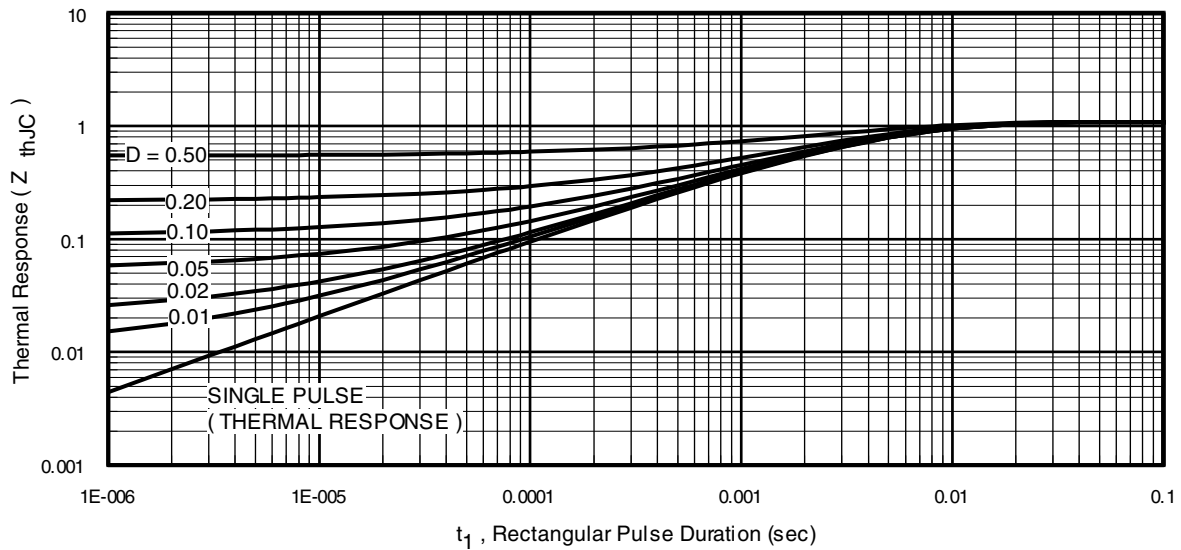
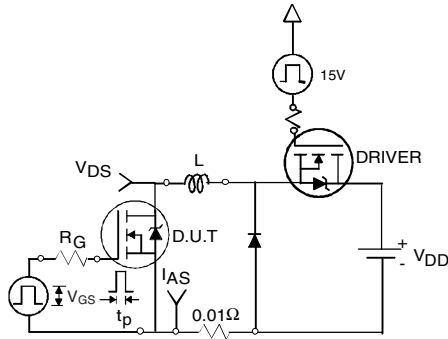

Fig 11. Maximum Effective Transient Thermal Impedance, Junction-to-Case
Fig 12a. Unclamped Inductive Test Circuit
3. Equation below based on circuit and waveforms shown in Figures 12a, 12b.
$Z_{thJC}(D, t_{av})$ = Transient thermal resistance, see figure 11)
- ① Repetitive rating; pulse width limited by max. junction temperature. (See fig. 11).
- ② Limited by T_{Jmax} , starting $T_J = 25^\circ\text{C}$, $L = 0.47\text{mH}$, $R_G = 25\Omega$, $I_{AS} = 30\text{A}$, $V_{GS} = 10\text{V}$. Part not recommended for use above this value.
- ③ $I_{SD} \leq 30\text{A}$, $di/dt \leq 300\text{A}/\mu\text{s}$, $V_{DD} \leq V_{(BR)DSS}$, $T_J \leq 175^\circ\text{C}$
- ④ Pulse width $\leq 1.0\text{ms}$; duty cycle $\leq 2\%$.
- ⑤ C_{OSS} eff. is a fixed capacitance that gives the same charging time as C_{OSS} while V_{DS} is rising from 0 to 80% V_{DSS} .
- ⑥ Limited by T_{Jmax} , see Fig.12a, 12b, 15, 16 for typical repetitive avalanche performance.
- ⑦ This value determined from sample failure population. 100% tested to this value in production.
- ⑧ When mounted on 1" square PCB (FR-4 or G-10 Material). For recommended footprint and soldering techniques refer to application note #AN-994